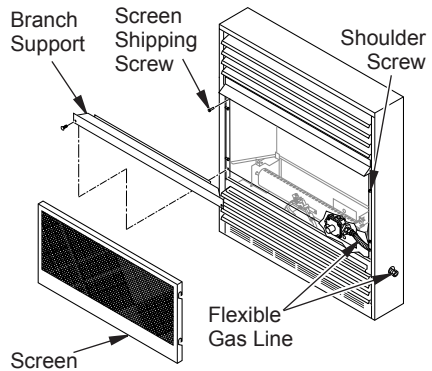

Figure 22 - Removing Log Base Assembly From Fireplace
2. Remove screws that attach branch support to fireplace (see Figure 22). Carefully lift up branch support and remove from fireplace (see Figure 22).